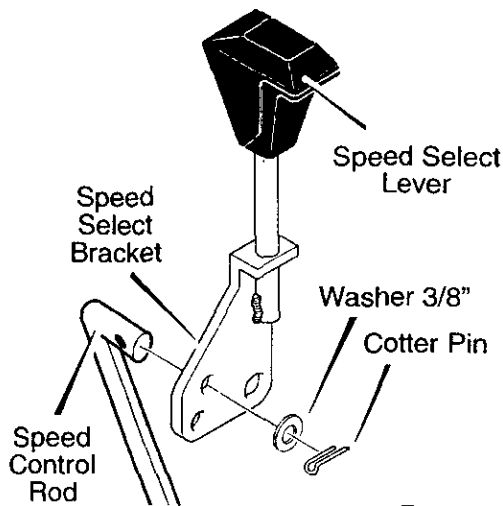

Figure 9
2. Attach the **speed control rod** (*end with 90° bend*) to the **speed select bracket** with **washer and cotter pin**. See Figure 9.